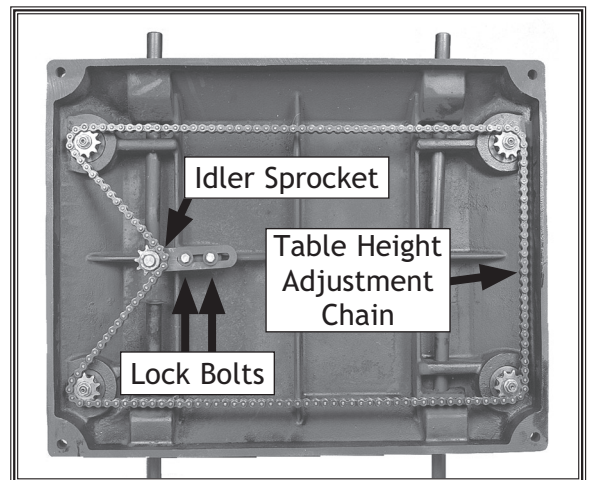

Figure 24. Underside of table.
Chain: The table height adjustment chain (see **Figure 24** on **Page 28**) should be inspected monthly and lubricated with general purpose grease when needed.
3. Using a 14mm wrench, loosen the two lock bolts, move the idler sprocket against the chain to tighten it (**Figure 24**) and re-tighten the locking bolts.